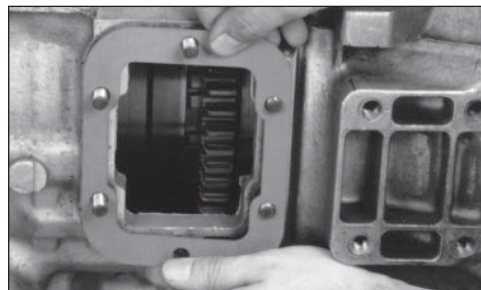

Figure 10
1. Install adapter gasket over studs and dowel pins. Begin with (1) thick gasket (**Fig. 10**).